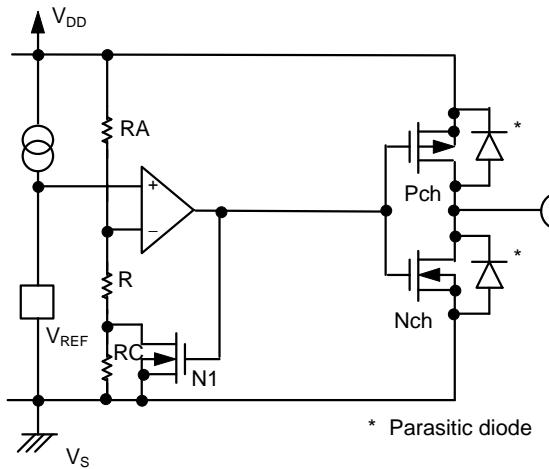

Figure 9
- (2) When power supply voltage  $V_{DD}$  goes below  $+V_{DET}$ , the output maintains the power supply voltage level, as long as  $V_{DD}$  remains above the detection voltage  $-V_{DET}$ . When  $V_{DD}$  does fall below  $-V_{DET}$  (A in Figure 10), the Nch transistor goes ON, the Pch transistor goes OFF, and  $V_{SS}$  appears at the output. With the Nch transistor N 1 of Figure 9 ON, the comparator input voltage is  $RB/(RA+RB) \times V_{DD}$ .
- (3) When  $V_{DD}$  falls below the minimum operating voltage, the output becomes undefined. However, output will revert to  $V_{DD}$  if a pull-up has been employed.
- (4)  $V_{SS}$  will again be output when  $V_{DD}$  rises above the minimum operating voltage.  $V_{SS}$  will continue to be output even when  $V_{DD}$  surpasses  $-V_{DET}$ , as long as it does not exceed the release voltage  $+V_{DET}$ .